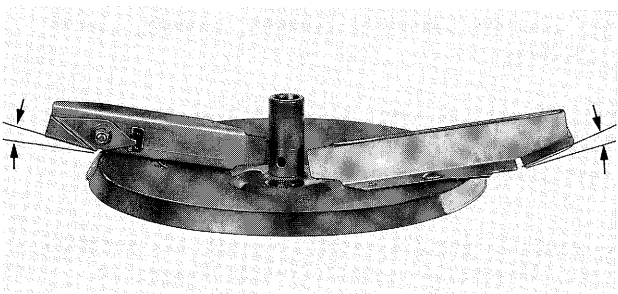

Fig. 7.3
**For late top dressing push the swivel blades of the vanes upwards (Fig. 7.3) without slackening the nuts (without tools). Hereby the ballistic curve of the fertiliser is raised.**